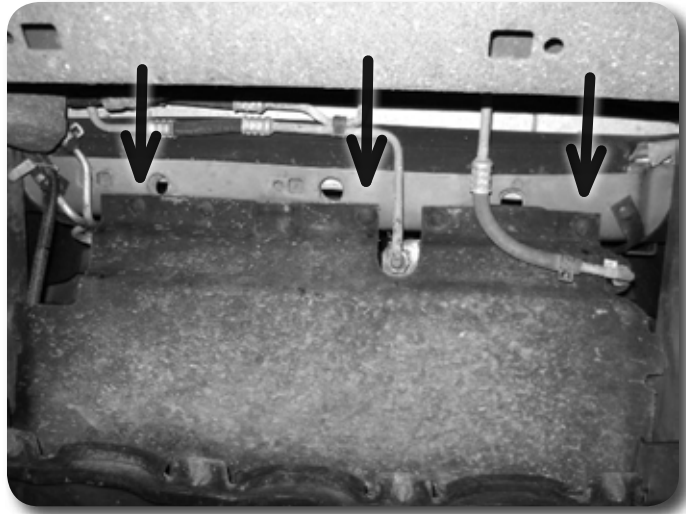

Figure 9
19. Carefully remove the plastic push-in fasteners that hold the air flap located between the bumper and the bottom of the core support from the core support only. **Figure 9** Allow the flap to swing down and hang from the bumper to gain access to the bumper mounting bolts. Save plastic fasteners.